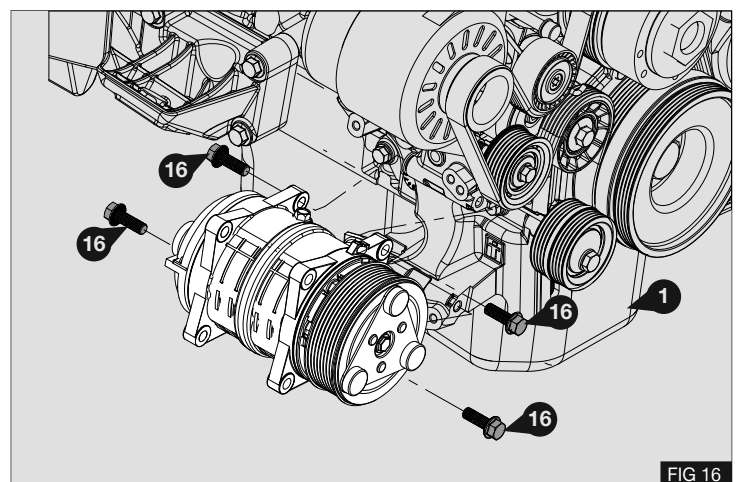

FIG 16
1. Fit the compressor (not supplied) to the bracket (1) using M1 x 30 bolts (9) - Fig 16
2. Torque bolts (9) to 55Nm / 73lbft